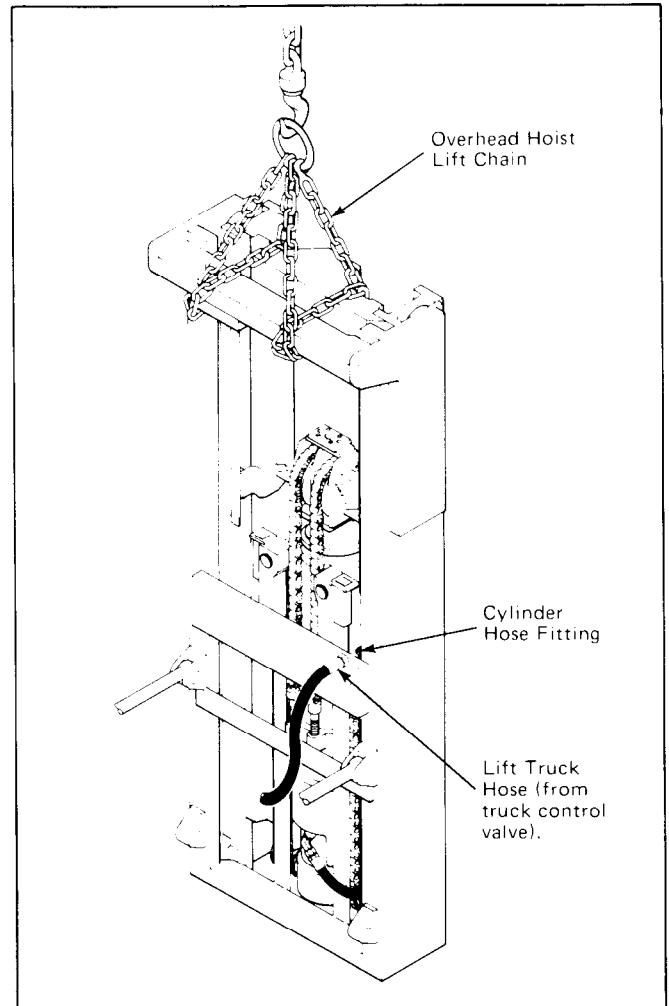

Figure 4. Mast Installation.
5. Connect the lift truck hose to the cylinder hose on the mast. See Figure 4. The lift truck hose can be SAE 100 R2 or R9.